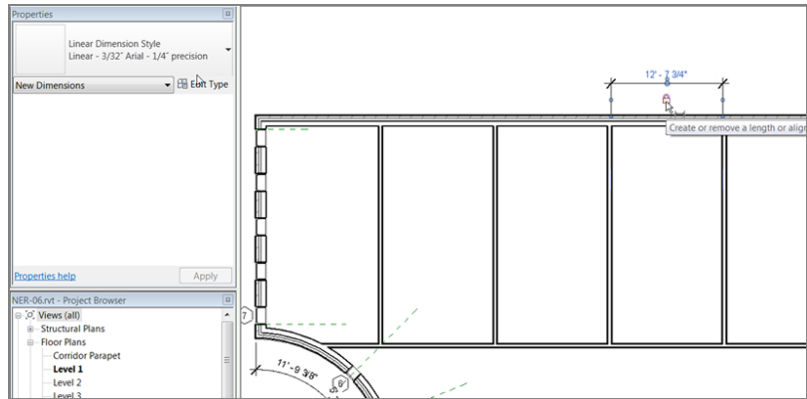

FIGURE 5.34: You can add a dimension and lock the distance between two items.
2. In the Properties dialog, select the Linear - 3/32" dimension style, as shown in Figure 5.34.
4. Pick the inside faces of the two middle partitions, as shown in the upper-left corner of Figure 5.34.